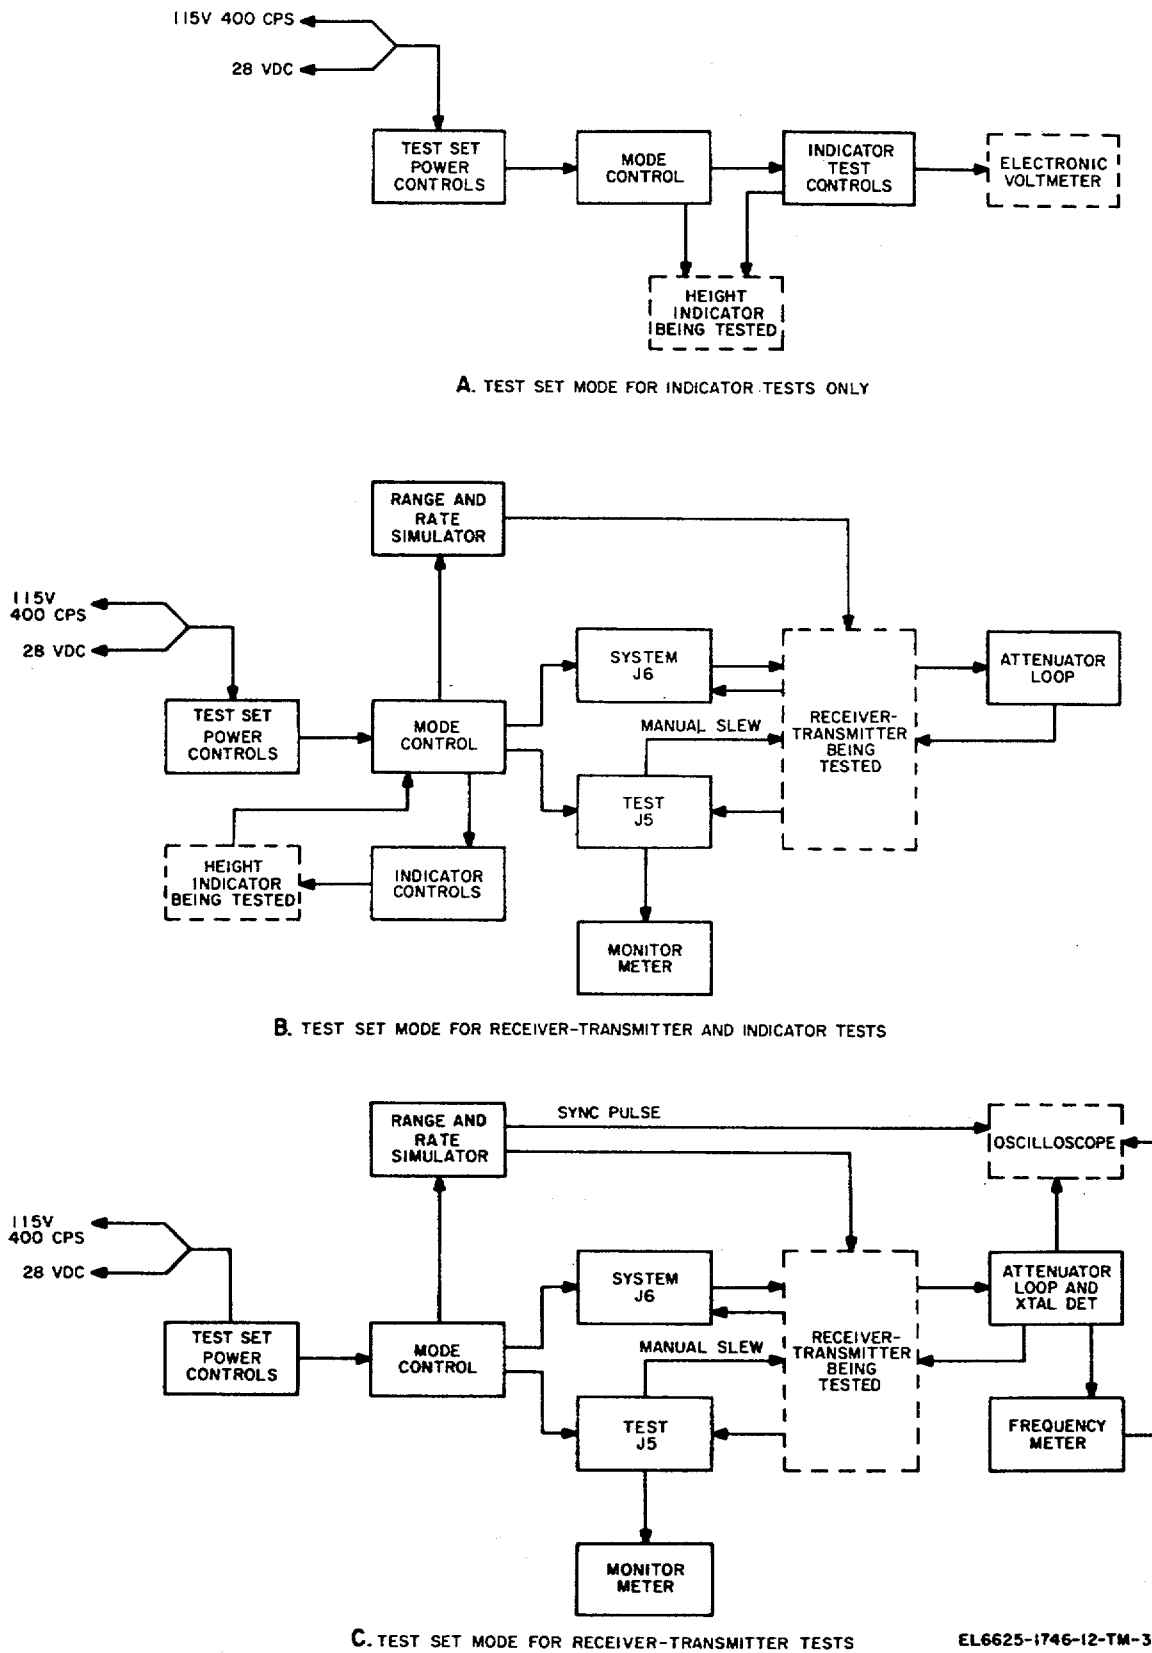

Figure 1-3. Test Set, Radar Altimeter System AN/APM-2S3, block diagram for typical operation.
b. Use. The system test set is used for bench tests of Altimeter Set, Electronic AN/APN-171A (V)1 (altimeter set). It provides simulated signal inputs and circuit test points for functional tests of Receiver-Transmitter RT-804A/APN-171(V) (receiver-transmitter) and Height Indicator (height indicator) ID-1345A/APN-171 (V). Tests may be made of the height indicator (A, fig. 1-3), the receiver-transmitter with the height indicator (B, fig. 1-3), or the receiver-transmitter without the height indicator (C, fig. 1-3).